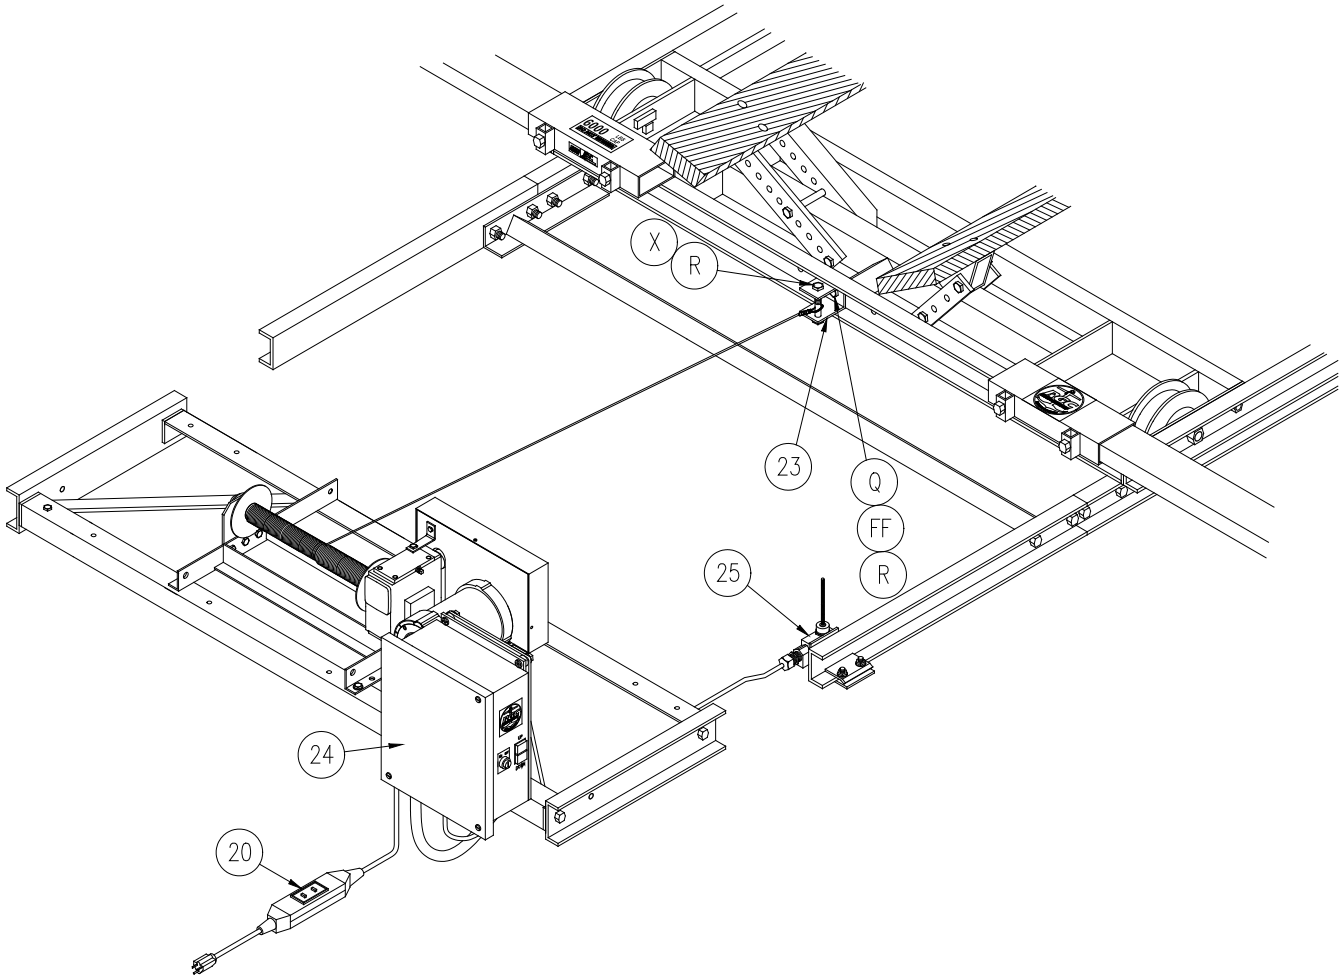

Figure 3-4.
2. **Refer to Figure 3-4.** Fasten limit switch (25) to railway track, on motor side of power drive. Ensure switch is installed far enough away from power drive to prevent carriage or boat from contacting power drive causing damage to lift or boat.
1. **Refer to Figures 3-4.** Fasten pulley support bracket (23) to carriage as shown (fig. 3-4 center hole for AR4K and either hole for AR6K).